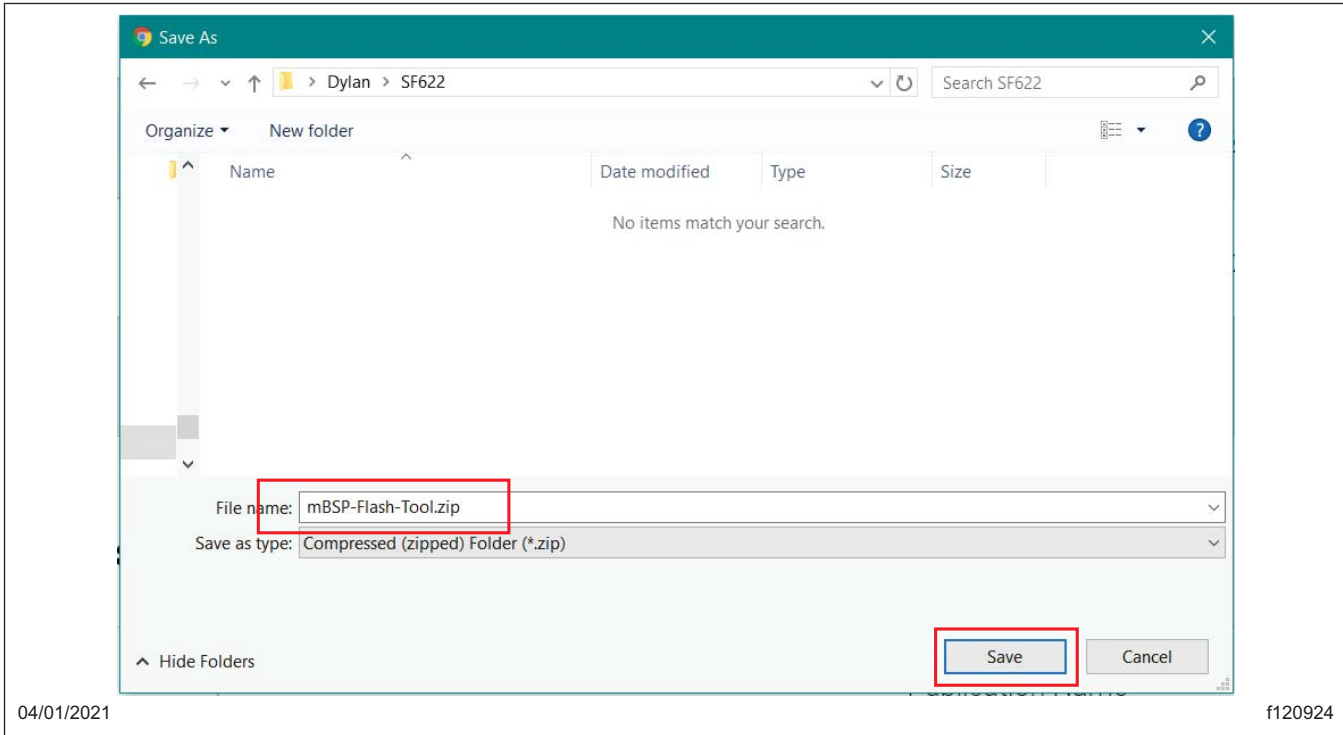

Fig. 2, Saving mBSP Flash Tool Package
5.3 Save the 'mBSP-Flash-Tool.zip' file to a location on the local hard drive. See Fig. 2.